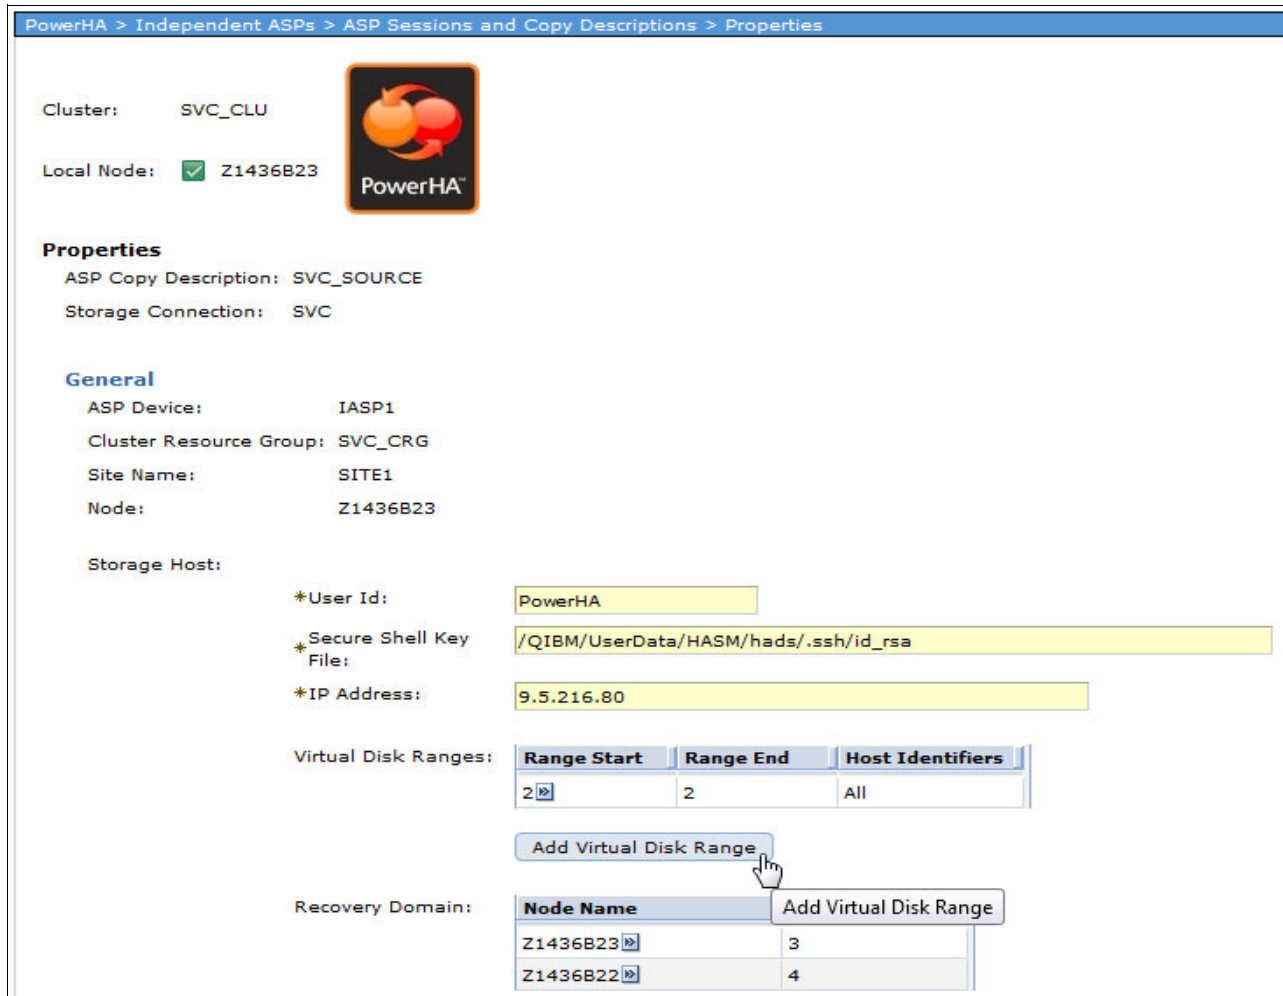

Figure 4-62 Adding LUNs, adding virtual disk range
- d. In the Properties window, you can see the virtual disk range that is assigned to the IASP. Click **Add Virtual Disk Range**, as shown in Figure 4-62.